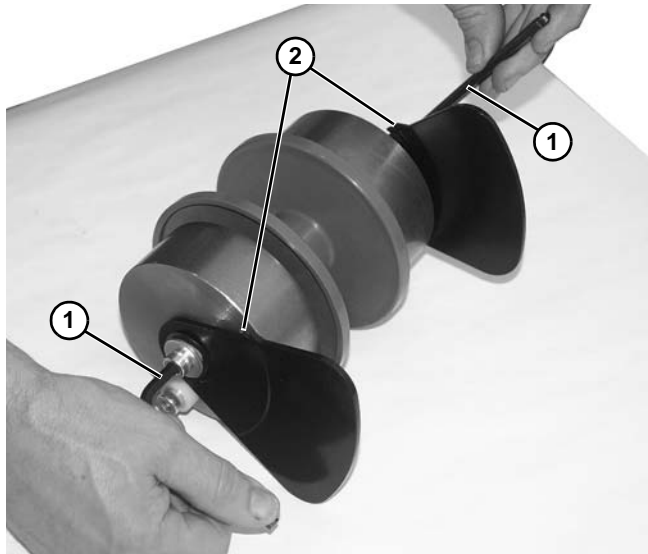

Figure 142
- Install components reverse of removal, using two hex wrenches (**Figure 142, item 1**) on each side of idler assembly to tighten components.
*Be certain that notches (**Figure 142, item 2**) on both plates are on top side, and spacers are in same orientation, as shown, before tightening components.*